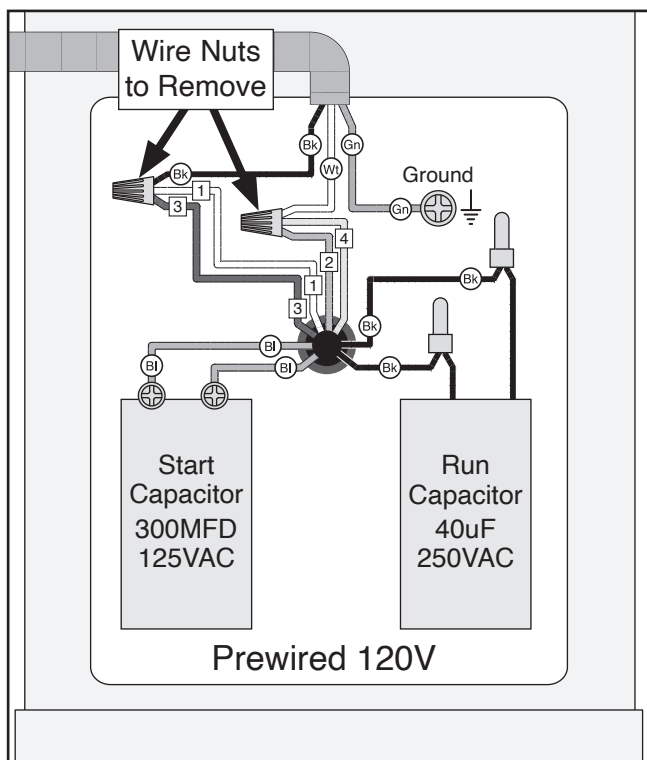

Figure 8. Motor wiring diagram (prewired 120V).
9. Open motor junction box and remove (2) wire nuts (see **Figure 8**).